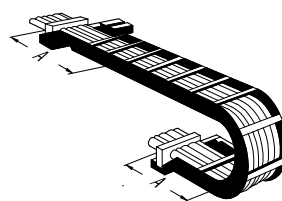

Fig. 3
- Fasten the cables on both ends of the chain (see Fig. 3).
- Make sure that the cables cannot be moved up to the fastening point. Make sure that the distance from the end point of the bending movement to the fastening is as large as possible. At least, however, fastening distance "A" (see Fig. 3 + 4).